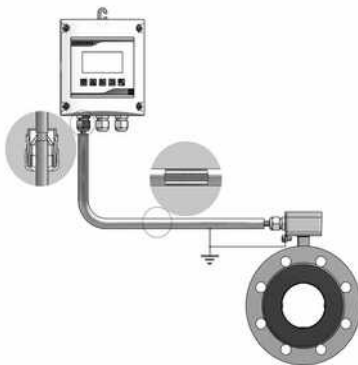

Fig. 4.
6. Connect the flow sensor cable to the ABCDE terminals in the housing of the flow meter electronics unit. The induction flow sensor in the separate version is supplied as standard with a 6 m cable that is connected to the sensor terminal block. For a better resistance to electromagnetic interference, it is advisable to protect the connecting cable between the sensor and the electronic unit by a metal protective hose or tube connected to the ground potential. . Fig. 4.